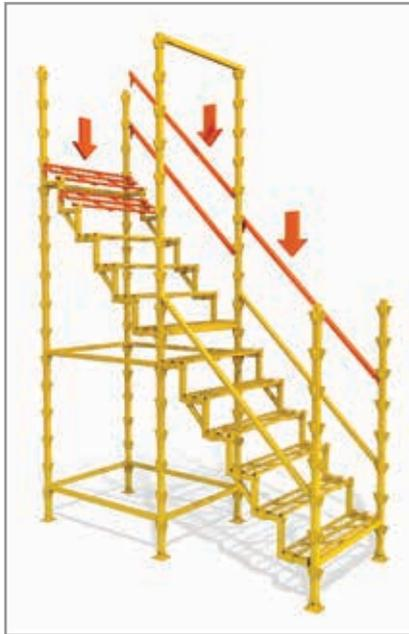

Figure 4.11
4.11 Fit stair treads and handrails. Complete all handrail on first flight if required. (Figure 4.11).
4.12 Adjust base plates if necessary to level the stairs (Figure 4.11).